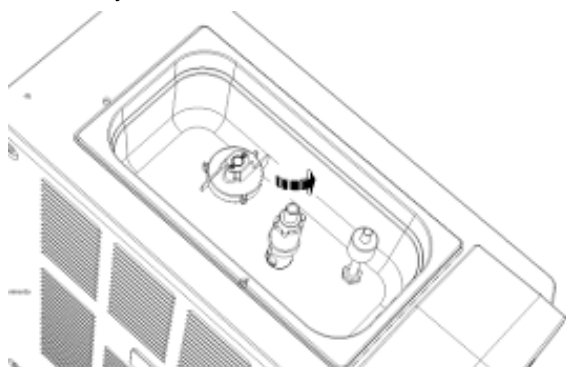

Fig. 66
- Lifting and turning the upper part of the tube counter clockwise (Fig. 66), and positioning the pin on the notches which become gradually higher, increases the amount of mix that can flow into the freezing chamber so changing the consistency and the bulk of the same.